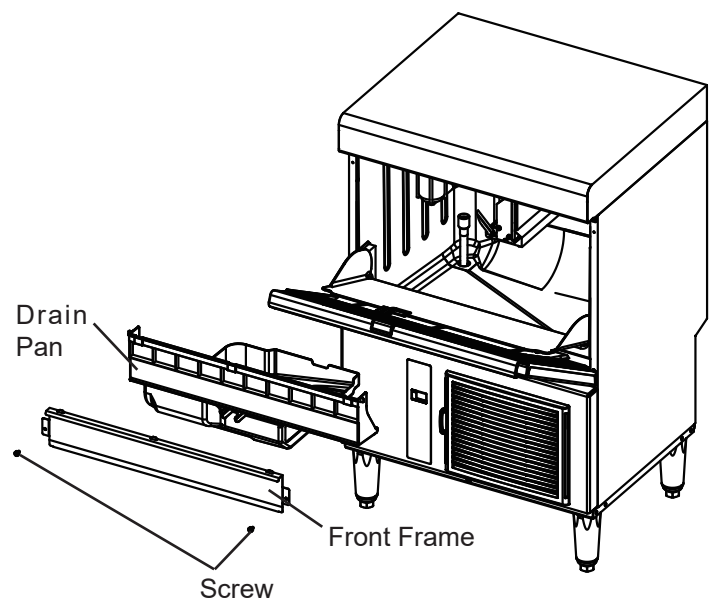

Fig. 5
4) Remove the front frame. Pull off the drain pan towards you. See Fig. 5.
- 2) Remove the front frame. Pull off the drain pan towards you. See Fig. 5.
- 5) Replace the front frame and drain pan. See Fig. 5.